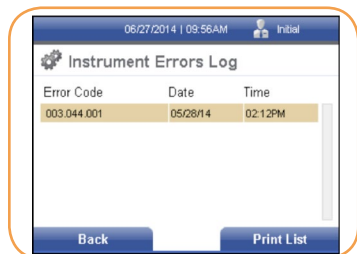

FIGURE 98
- Press the right soft key to select *Instrument Errors*. The Instrument Errors Log screen is displayed (Figure 98).